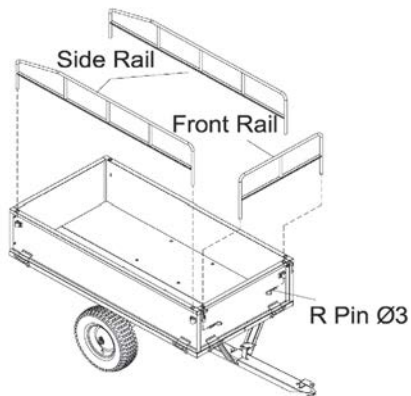

Fig. 9
STEP 9: Attach Side Rails and Front Rail (See Fig. 9)